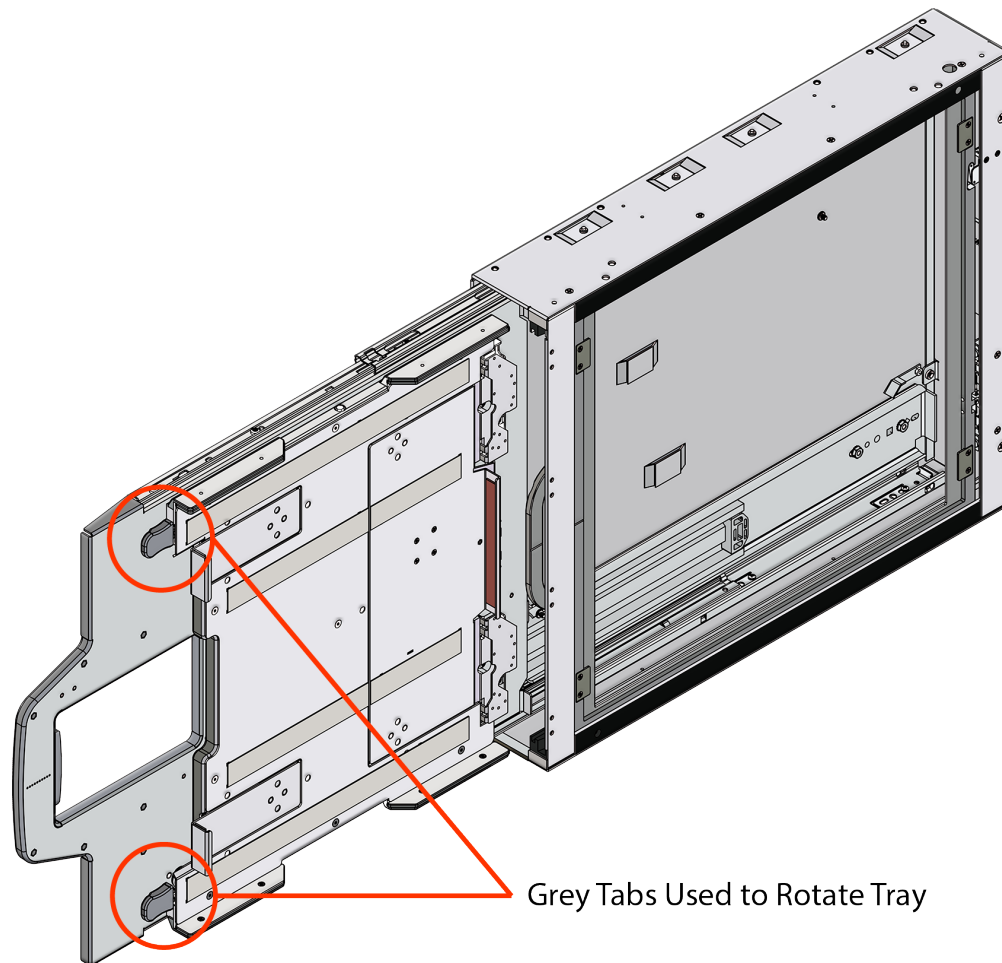

Figure 2-33: Grid Cabinet with Flex Detector Tray Tabs
3. Once secured, you can rotate the tray by swinging the tray either clockwise or counterclockwise by pressing onto the gray tabs shown in *"Figure 2-33: Grid Cabinet with Flex Detector Tray Tabs" on page 127*.